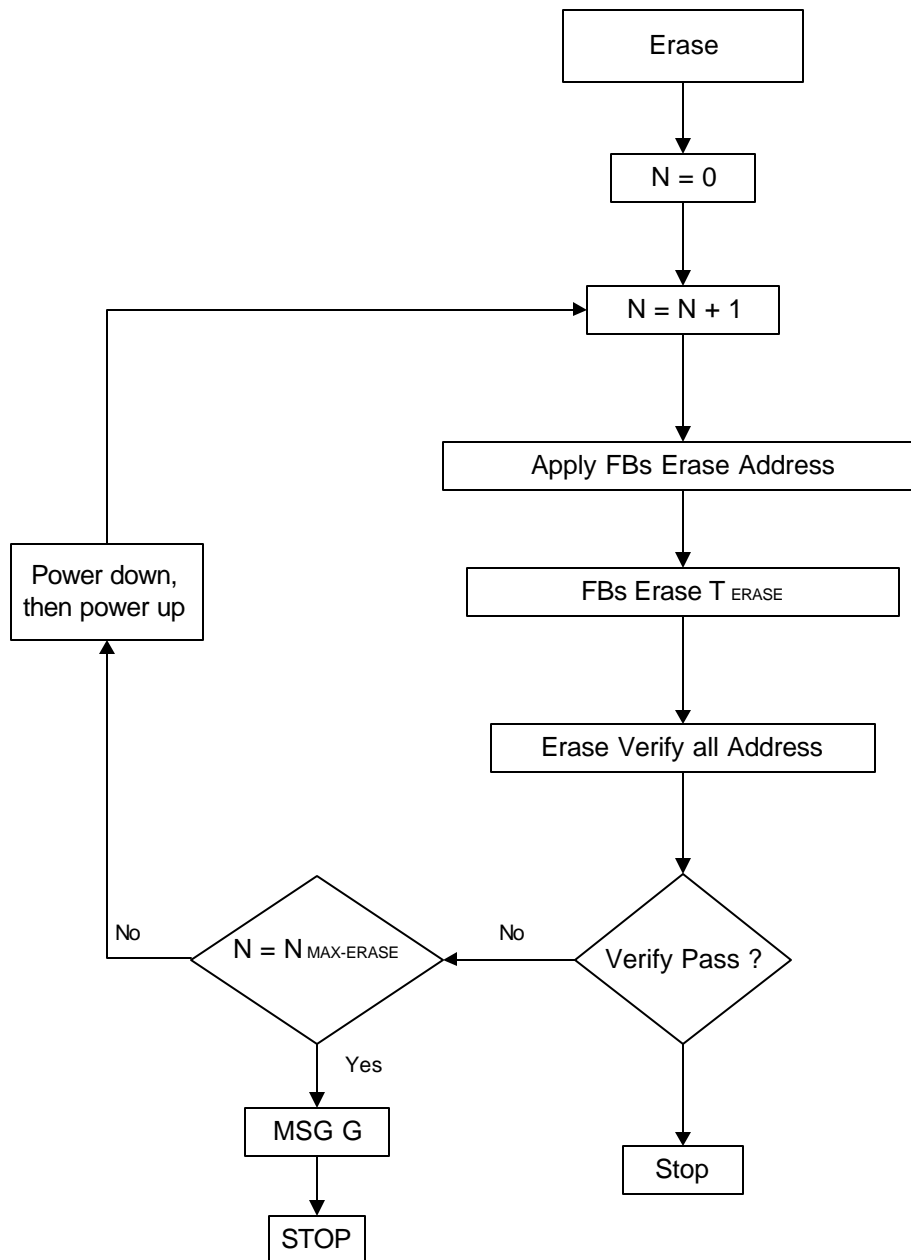

Figure 3. Erase Flow
To erase the device, follow the flow in Figure 3 and the timing according to Figure 9. See the Add.dat file for the Function Block (FB) erase address. Erase the device with Vpp set to Vppers and then perform an erase verify with Vpp set to Vppbnk. If any bits failed to erase, a number of retries are permitted. The number of retries ($N_{\text{MAX-ERASE}}$) can be calculated using the following equation: